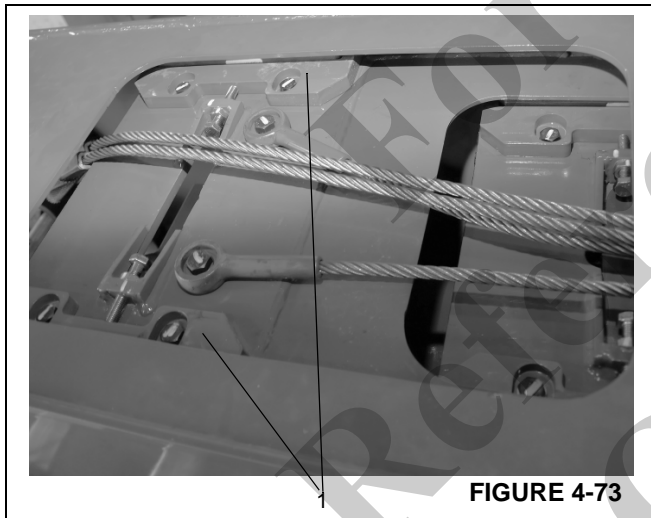

FIGURE 4-73
22. Install the adjustable wear pads (Figure 4-73, 1) to the top of the base end of the Inner Mid section.